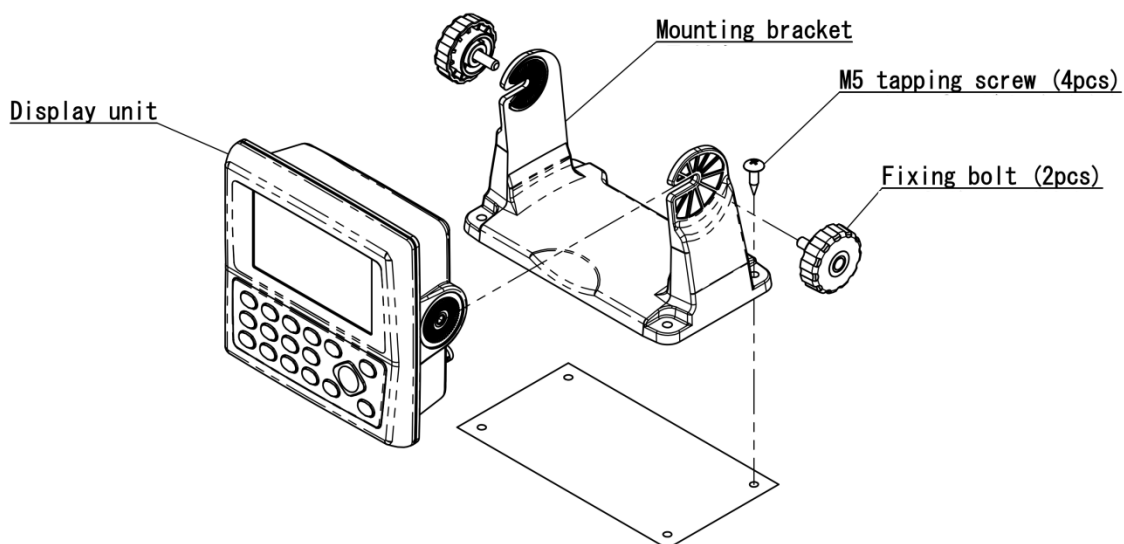

Figure 7.1 Fitting detail of KGP-922 in table mounting mode
The Display unit is designed for table mount and flush mount. Refer to Figure 7.1, 7.2 or 7.3 for installation.
- (1) Remove the two knurled fixing knobs that fix the Display unit to the mounting bracket.
- (2) Remove the Display unit from the bracket and place it on a flat and safe area.
- (3) Place the mounting bracket to the place where the Display unit is to be installed, and fix the bracket with four tapping screws.
- (4) Reset the Display unit on to the bracket and fix it using the two knurled fixing knobs that were removed in step (1). Refer to Figure 7.1 for detail.